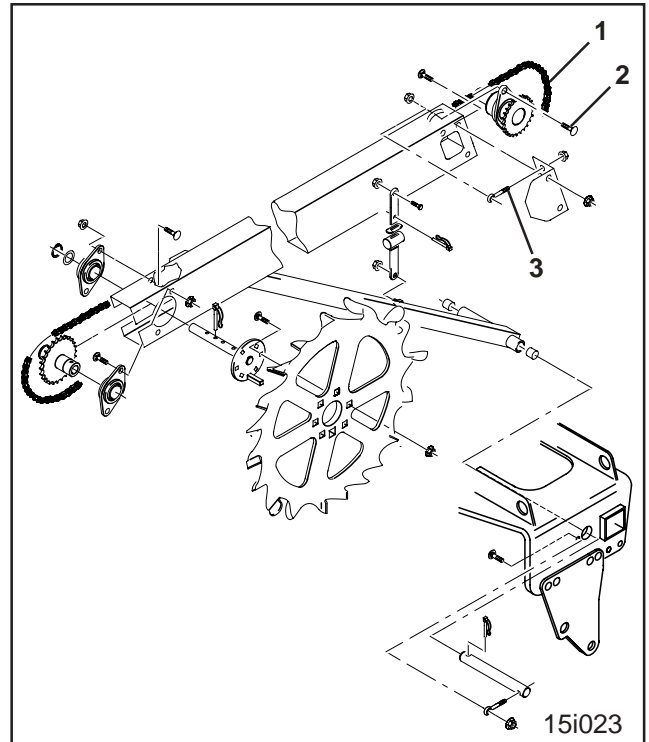

Fig.16.5
- the star wheel drive (Fig. 16.5)
Before every season, the roller chain (Fig. 16.5/1) has to be checked and tensioned, if necessary. For tensioning the roller chain, slacken hex. bolt (Fig. 16.5/2) and tighten eye bolt (Fig. 16.5/3) until the roller chain has got the correct tensioning. Tighten bolts firmly afterwards.